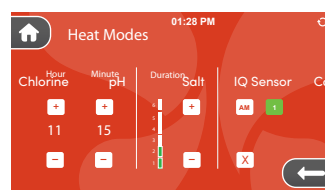

Figure 4
4. Press the button to activate setting 1 and turn button green (Figure 4). You can deactivate the setting by pressing the button.